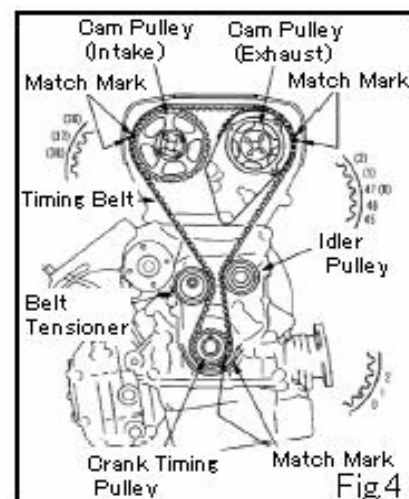

Fig4
- Turn the crankshaft clockwise about 60 degree, and set the match mark. (See Fig.4)
- Make sure each match mark is positioned as shown in Fig.4.
- Turn the crankshaft clockwise twice, and make sure each matchmark is matched as shown in Fig.4